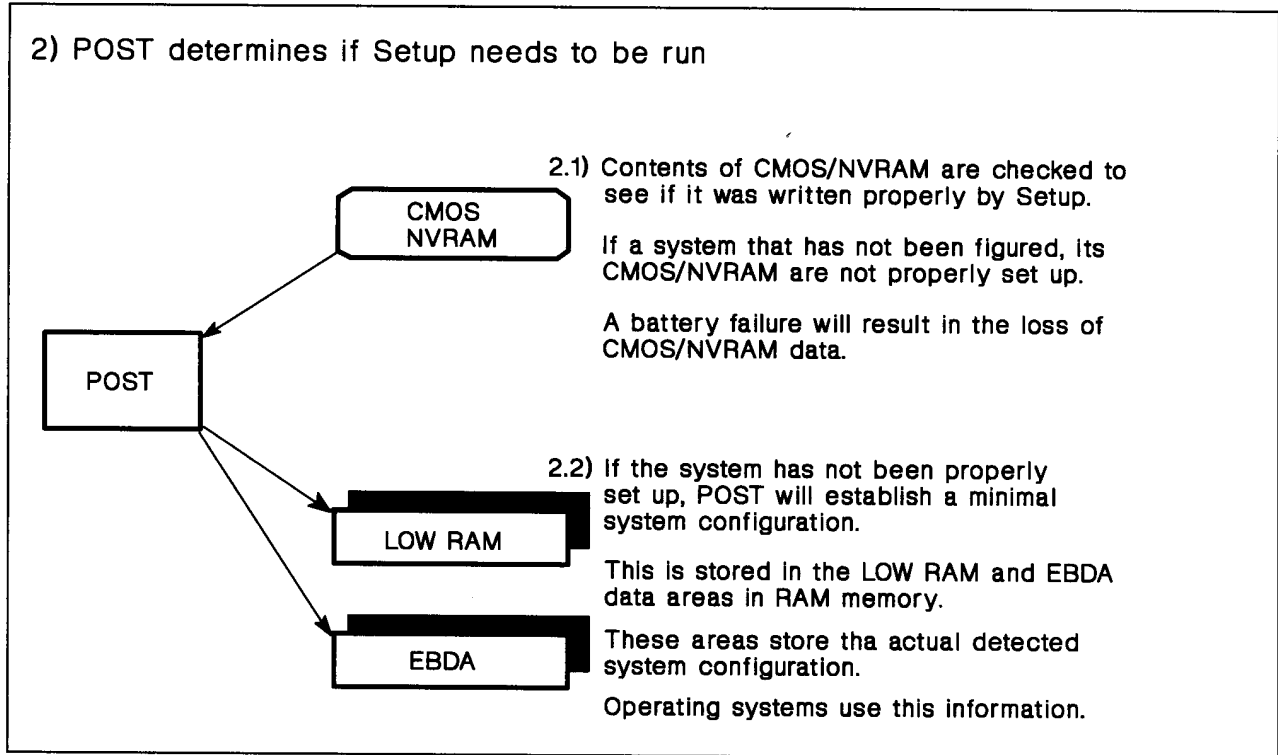

Figure 8-5. POST Examination of CMOS/NVRAM
- Verify CMOS/NVRAM checksum — It is determined whether CMOS/NVRAM contains Setup data. — see Figure 8-5 on page 8-11, item [2.1]
- (If configured) Initialize I/O adapters — see Figure 8-5 on page 8-11, item [2.2]
Figure 8-5 shows the sequence of operations POST takes to determine if the contents of CMOS/NVRAM contains valid data.